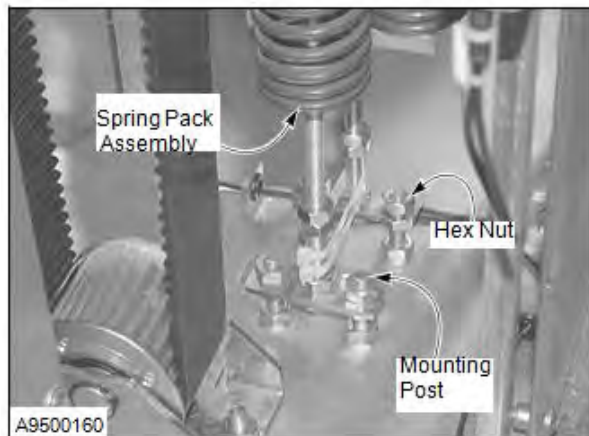

Figure 57
5. Disconnect the associated spring pack assembly from the base plate. To retain the preload setting of the spring pack, loosen only the lower hex nut on each mounting post. (See Figure 57.)